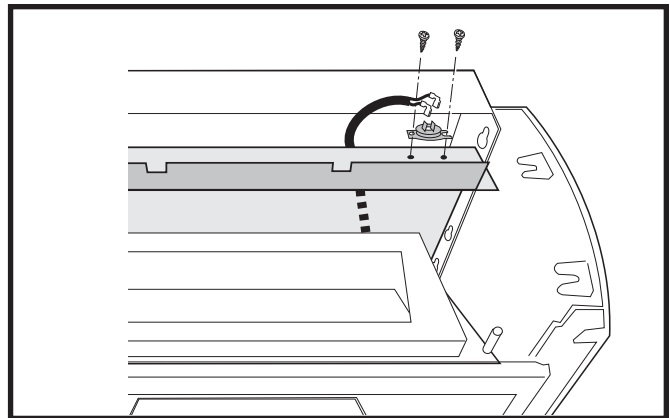

Fig. 7 Attach snapstat to inner shroud.
4. Feed the snapstat wire lead up between the inner and outer rear shroud panels and secure the snapstat to the upper right side of the inner shroud. (Fig. 7)